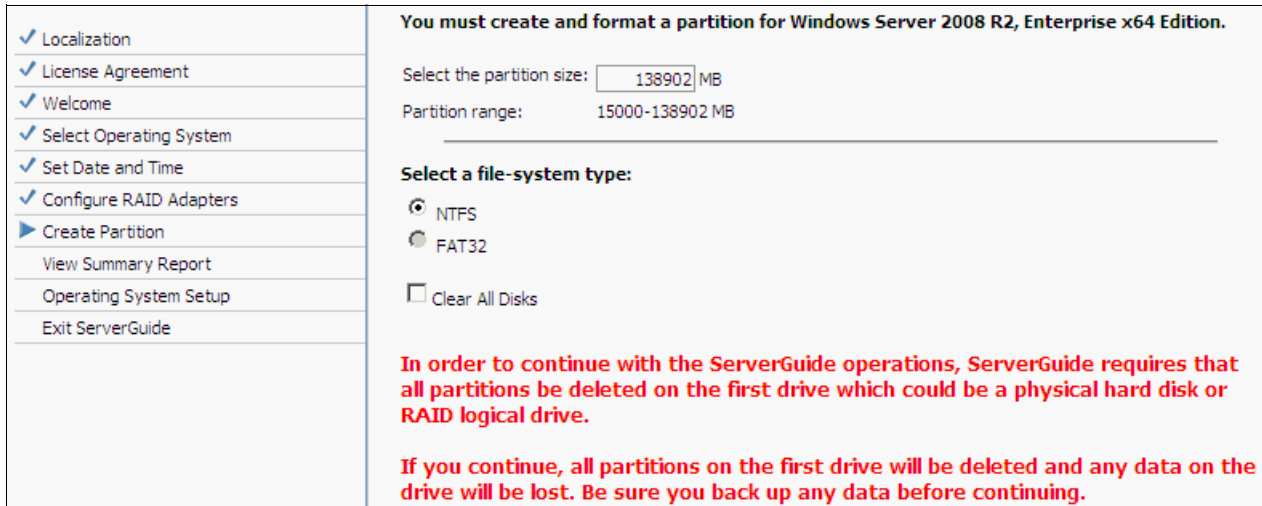

Figure 9-54 Selection for format and partition
14. After the server has restarted, you must create and format a partition. Choose your selection and click **Next** to start the process, as shown in Figure 9-54 on page 505.